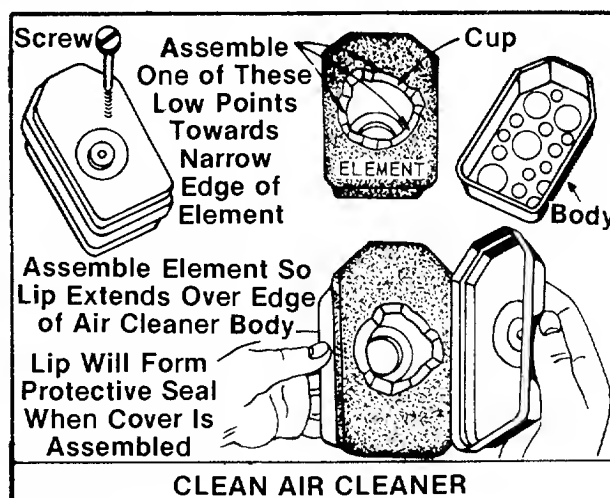

FIGURE 18.
**CLEAN AIR CLEANER** and re-oil element every 25 hours under normal conditions. Clean every few hours under extremely dusty conditions. Poor engine performance and flooding usually indicates that the air cleaner should be serviced. See figure 18.